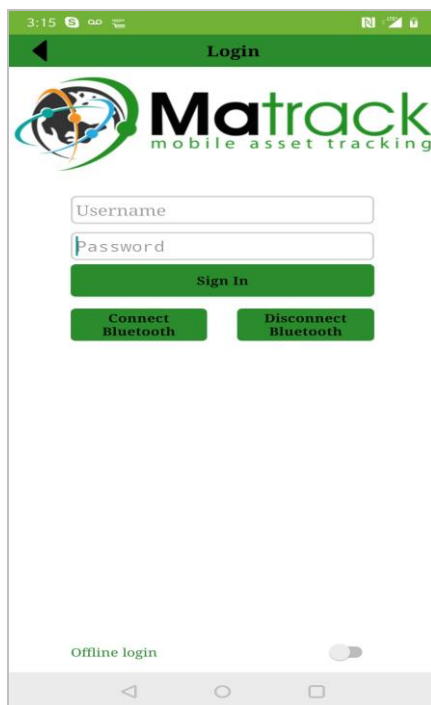

Figure 2.1 – Login screen
- In the Logs screen (figure 2.1), verify the Logged in user and Display user. Both should display same username that was logged in.